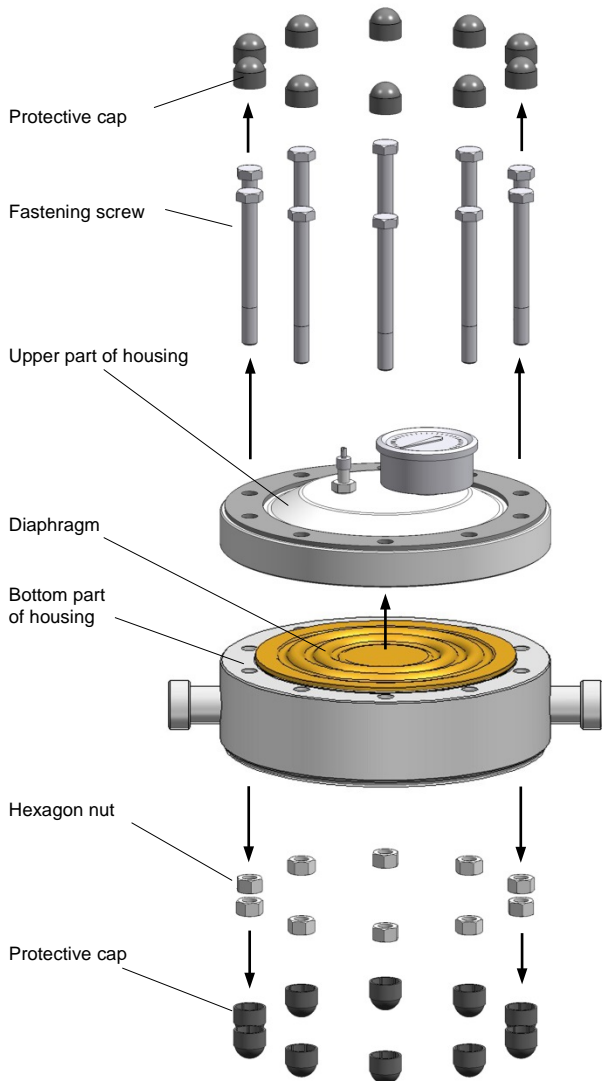

Fig. 27 Changing the diaphragm (plastic)
- Loosen fastening screws crosswise and remove upper part of the housing (see Fig. 27).